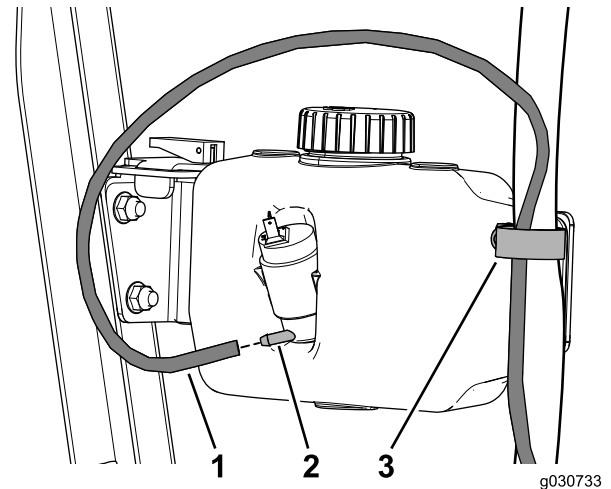

Figure 40
2. Route the washer hose through the R-clamp and connect it to the washer bottle (Figure 40).